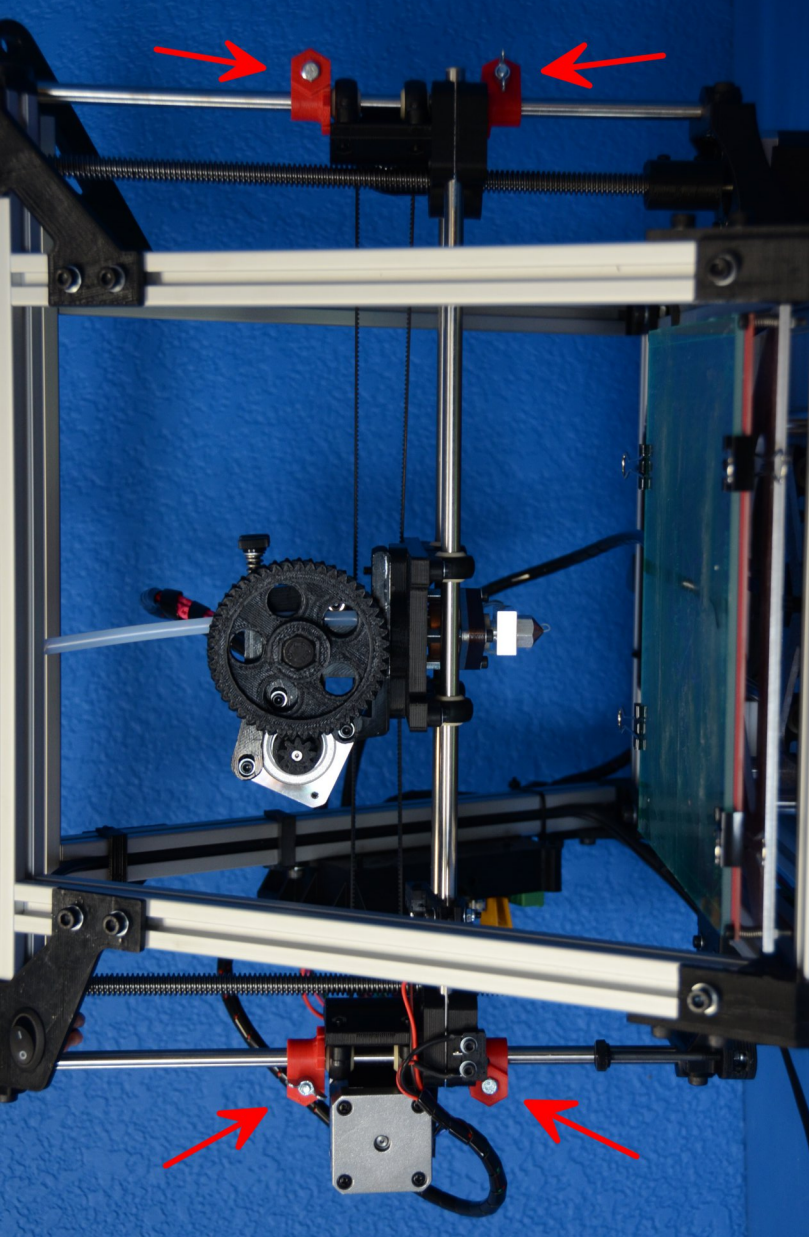

Fig 1-1. Remove shipping clamps noted by arrows
10. Remove the four clamps above and below the x-end motor mount and idler (Fig. 1-1). Loosen and remove the wing nut and screw on each of the four clamps. Remove each of the four clamps by popping them off of the smooth rod. Keep the clamps and hardware for future use if you need to ship or transport your printer.